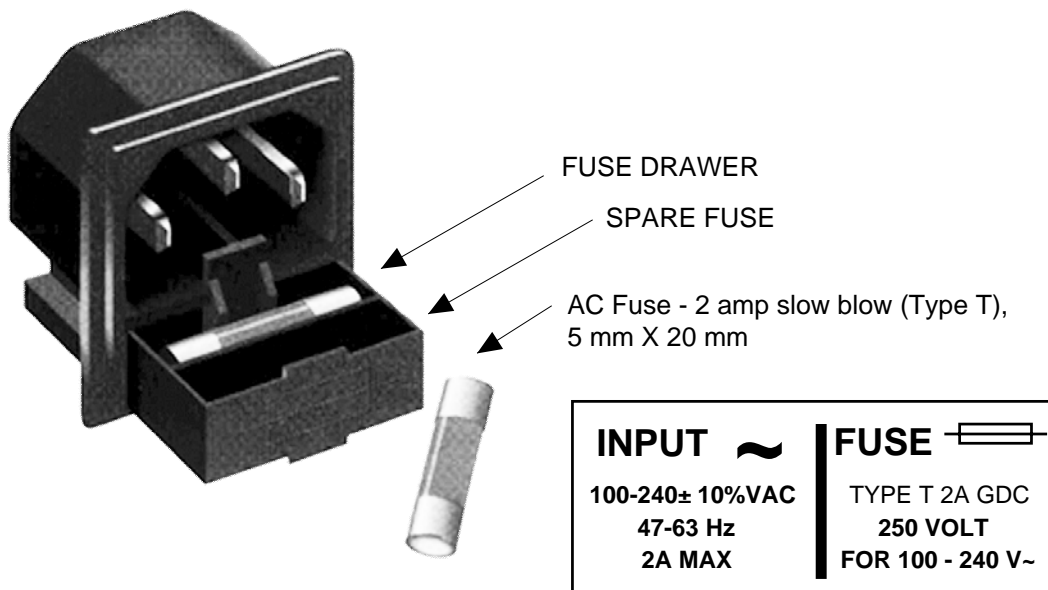

FIGURE 2.3 Fuse Location and Spare Fuse
9. **AC Fuse** - The fuse is a 5 mm X 20 mm, 2 amp slow blow (Type T) and is inserted in the far slot in the drawer below the AC input as shown in Figure 2.3. There is a spare fuse in the near slot. If a fuse continues to open, the power supply is most likely defective.